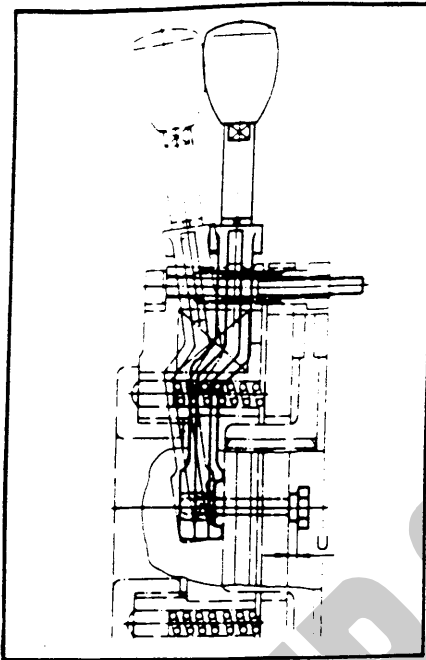

FIGURE 3
9. If air gap adjustment is necessary, loosen bolts (9A), rotate the adjustment tubes (8) at approximately $\frac{1}{4}$ turn, retighten bolts (9A), and measure air gap. If air gap is not within tolerance, repeat procedure.
10. Set the hand release gap (Dimension "U" Figure 3) to the value indicated in Table 3 by tightening nuts (13H). Once set the nut is locked with factory applied thread locking compound. Any change in this setting could interfere with the safe operation of the brake.